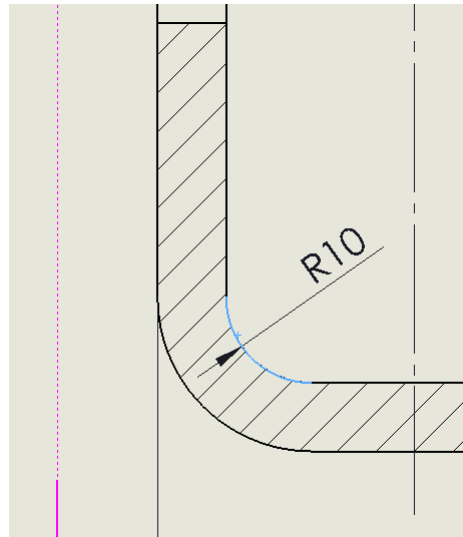
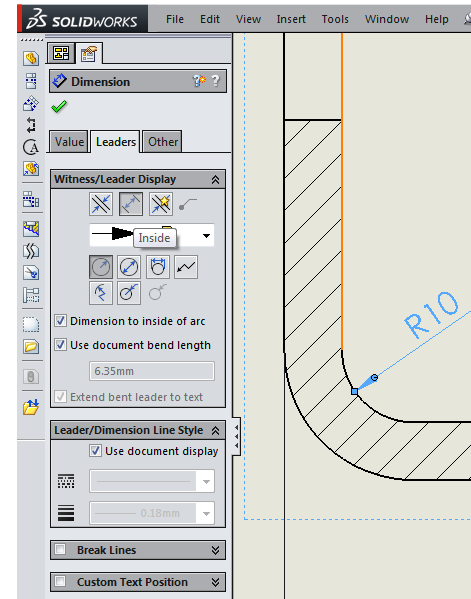

Fig4
Fig5
- There is no dimension for the bending radius. Use the Smart Dimension tool to supply the missing dimension (Fig4)! Click on the quarter circle of the fillet then place the dimension number. Leave the dimension selected! Go to the Leaders tab of the Dimension dialog and press the Inside button to place the dimension arrow inside the dimensioned arc (Fig5)!